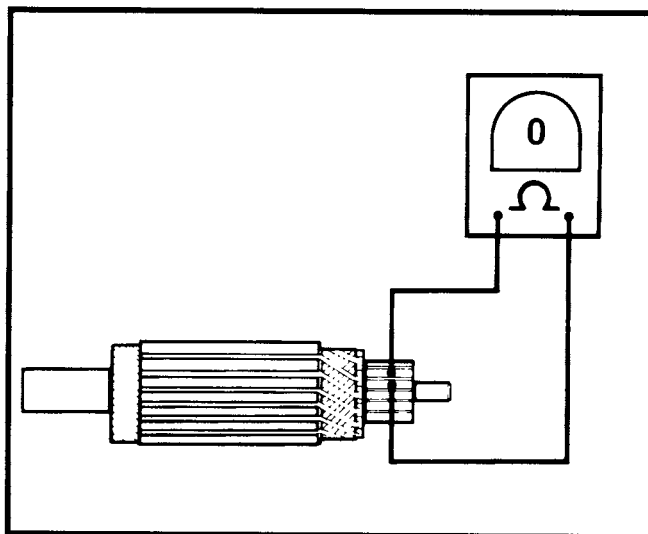

Figure 77. Armature Open Test
12. See Figure 77. Check for OPEN ARMATURE with an ohmmeter or continuity tester. Check for continuity between all commutator segments. There should be continuity (0 ohms) at all test points. No continuity at any test point indicates armature is open and should be replaced.